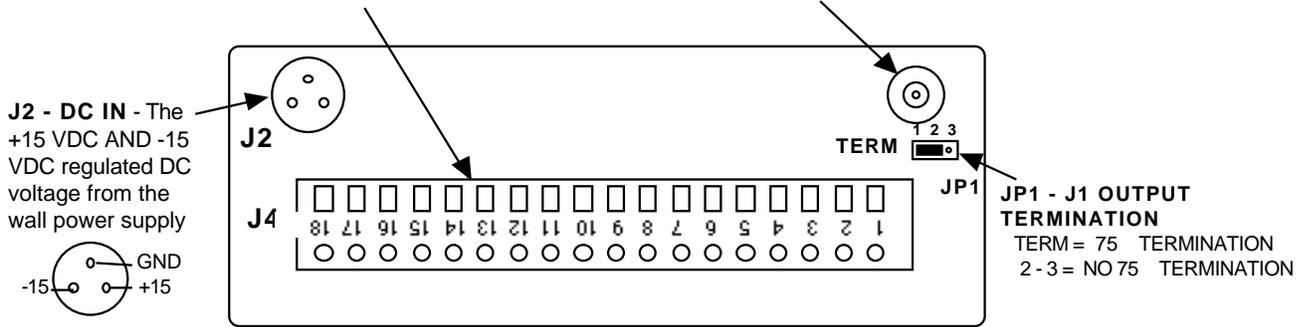

FIGURE 2.3 2710 Inputs and Outputs
2.3 Input / Output Signals - Figure 2.3 shows the input and output signals to the 2710.
- 2) **AUDIO OUTPUT** - Pins 16 and 17 of J4 (terminal strip on the back panel, see Figure 2.3 and Table 2.1) are the balanced audio outputs. Pin 13 is an unbalanced audio output. Pin 18 is ground.
- 3) **SUBCARRIER INPUT** - The subcarrier input goes to J1, the BNC connector on the back panel (Figure 2.3). JP1 may be placed in the "TERM" position for a 75 ohm termination. If baseband is being looped through, this jumper it should be placed in "non-term" (JP1 pins 2 -3) position. Use a BNC "T" to loop the subcarrier input to other demodulators if using the high impedance loop through. Be sure a 75 termination is provided at some point in the loop, preferably at the end.